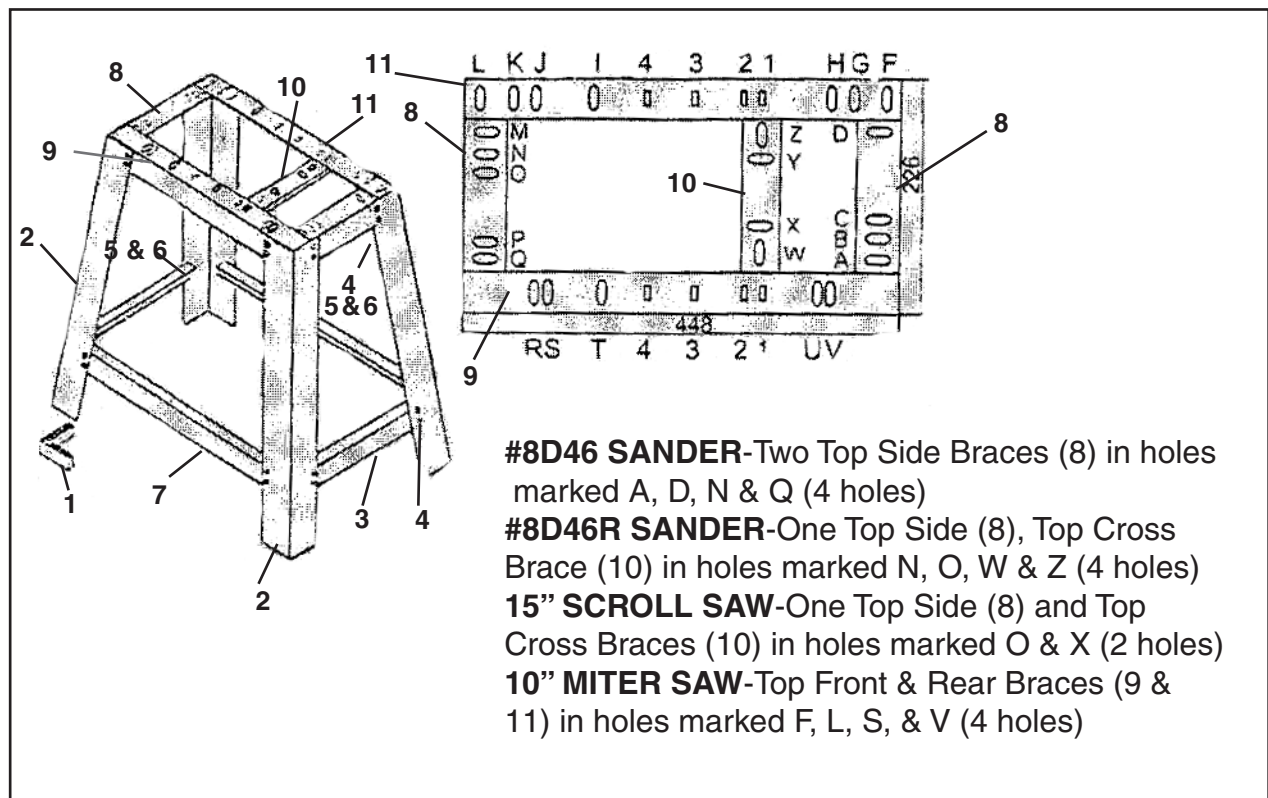

Figure 2
1. In some cases the Top Cross Brace (10) will change positions depending on the tool you are mounting. Assemble according to the configuration of the drawing pertaining to the tool you are using. **See Figure 2.**